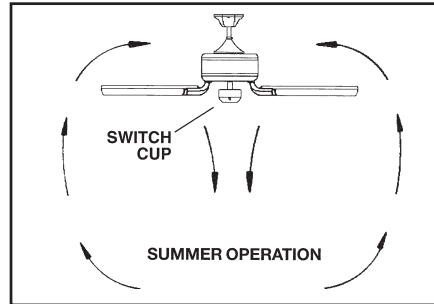

FIG. 18
**Warm weather** – (Counter Clockwise) A downward air flow creates a cooling effect as shown in figure 18. without affecting your comfort.